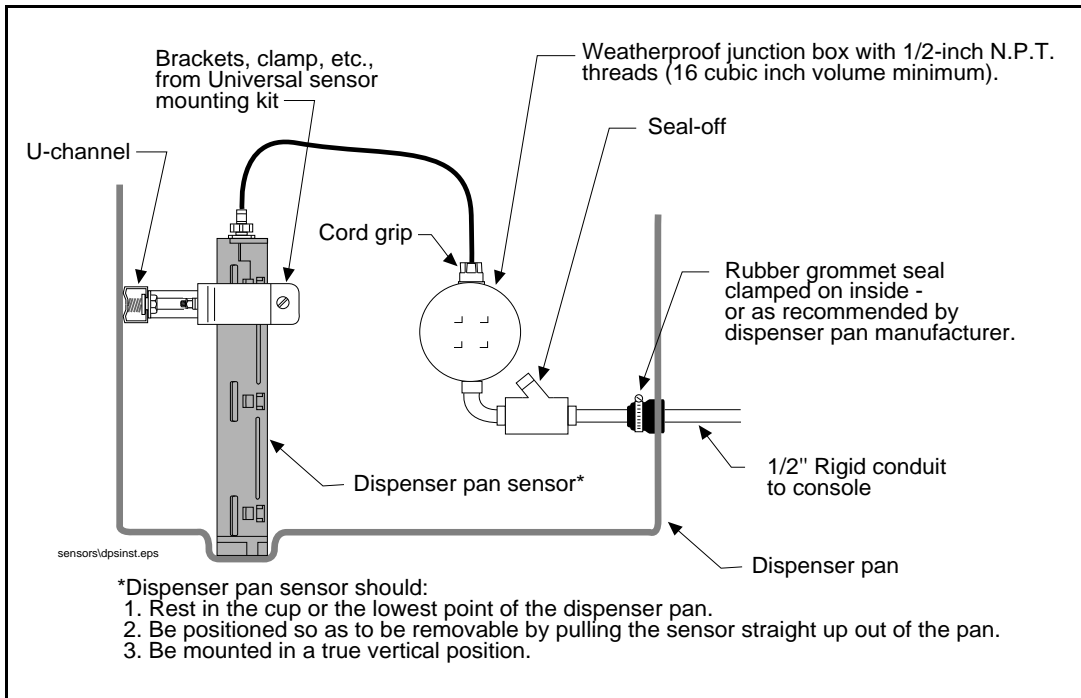

Figure 1. Typical Dispenser Pan Sensor Installation
| Figure 1. | Typical Dispenser Pan Sensor Installation | 7 |
4. Install the mounting hardware according to the instructions provided with the Universal Mounting Kit. Refer to either Figure 1: "Typical Dispenser Pan Sensor Installation" or Figure 2: "Typical Dispenser Pan Sensor Installation in a Dispenser Containment Sump" (whichever most resembles your installation). These examples apply to all Solid-State Discriminating Dispenser Pan, Discriminating Dispenser Pan, and Solid-State Dispenser Pan Sensors.